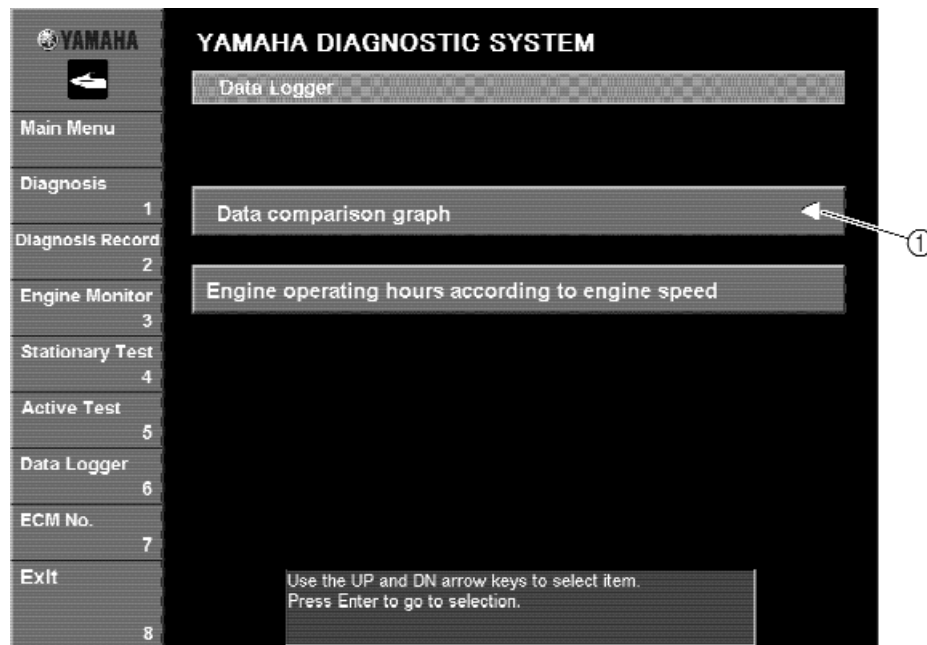

Fig. 59
① Triangle mark
1. Select the desired item by either clicking it or pressing the up or down arrow keys on your keyboard (Fig. 59).
2. Press the **Enter** key on your keyboard. The window of the selected item is displayed (Fig. 59).